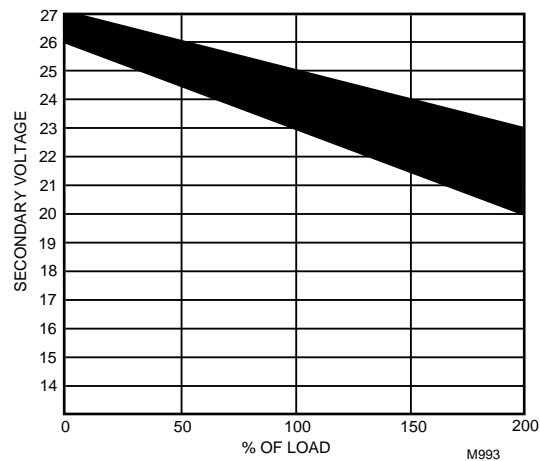

Fig. 21. NEMA class 2 transformer voltage output limits.
This means that four volts are going to be lost between the transformer and the controller; therefore, to assure the controller receives at least 20 volts, the transformer must output more than 24 volts. Because all transformer output voltage levels depend on the size of the connected load, a larger transformer outputs a higher voltage than a smaller one for a given load. Fig. 21 shows this voltage load dependence.
In the preceding $I \times R$ loss example, even though the controller load is only 37 VA, a standard 40 VA transformer is not sufficient due to the line loss. From Fig. 21, a 40 VA transformer is just under 100 percent loaded (for the 37 VA
controller) and, therefore, has a secondary voltage of 22.9 volts. (Use the lower edge of the shaded zone in Fig. 21 that represents the worst case conditions.) When the $I \times R$ loss of four volts is subtracted, only 18.9 volts reaches the controller, which is not enough voltage for proper operation.
1. Use a larger transformer; for example, if an 80 VA model is used, see Fig. 21, an output of 24.4 volts minus the four volt line loss supplies 20.4V to the controller. Although acceptable, the four-volt line-loss in this example is higher than recommended. See the following **IMPORTANT**.
To meet the National Electrical Manufacturers Association (NEMA) standards, a transformer must stay within the NEMA limits. The chart in Fig. 21 shows the required limits at various loads.